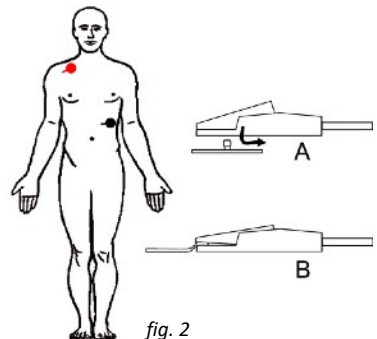

fig. 2
- G. Connect the crocodiles of the patient cable to the respective electrodes according to their type (type A or type B, see fig. 2)